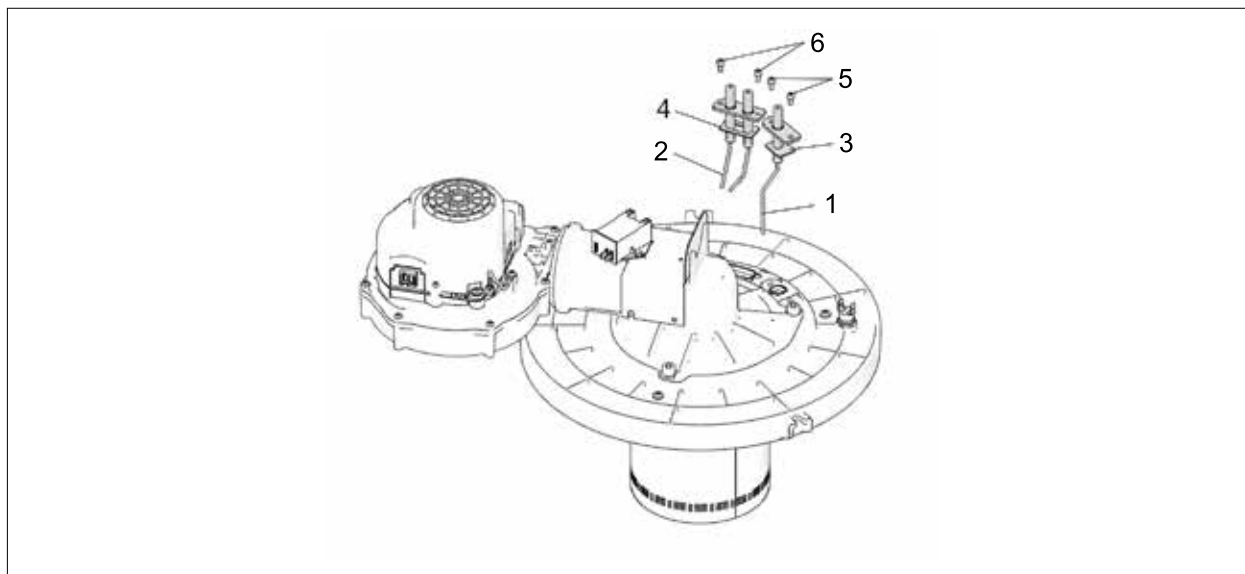

Fig. 6.3 Replacing electrodes
- ▶ Tighten the fixing screws **(5)** Fig. 6.3 with a torque of 3 Nm.
- ▶ Tighten the fixing screws (4) Fig. 6.3 using 3 Nm of torque.